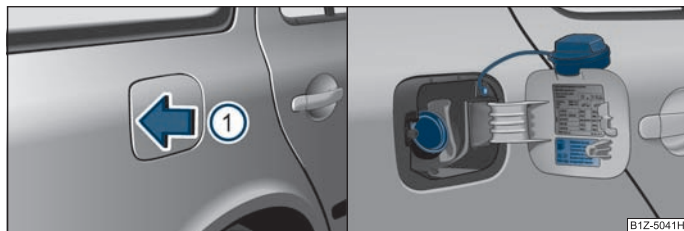

Fig. 160 Right rear side of the vehicle: Open fuel filler flap/fuel filler flap with cap unscrewed
Your vehicle can only be operated with **unleaded petrol**, which complies with the standard **EN 228** (In Germany: standard **DIN 51626 - 1** or **E10** for unleaded fuel with octane rating **95 RON** and **91 RON** or **DIN 51626 - 2** or **E5** for unleaded fuel with octane rating **98**). On the inside of the fuel filler flap, you will find the information regarding the RON required by your engine ⇒ page 185, fig. 160 - right.
- Press in the middle of the left area of the fuel filler flap in direction of arrow ① ⇒ fig. 160.
- Unscrew the fuel filler cap anti-clockwise and place the fuel filler cap from above on the fuel filler flap ⇒ page 185, fig. 160 - right.